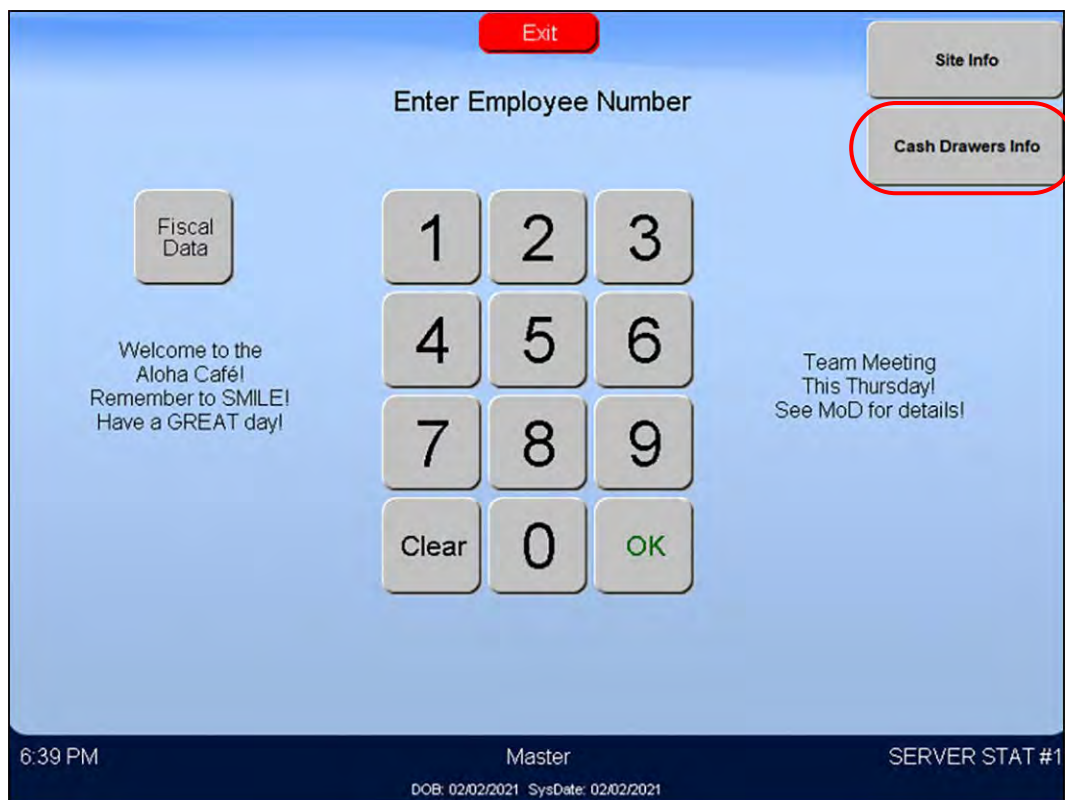

Figure 85 Cash Drawers Info
1. Touch the **floating logo** to open the Front-of-House (FOH). The Login screen appears. See Figure 85.